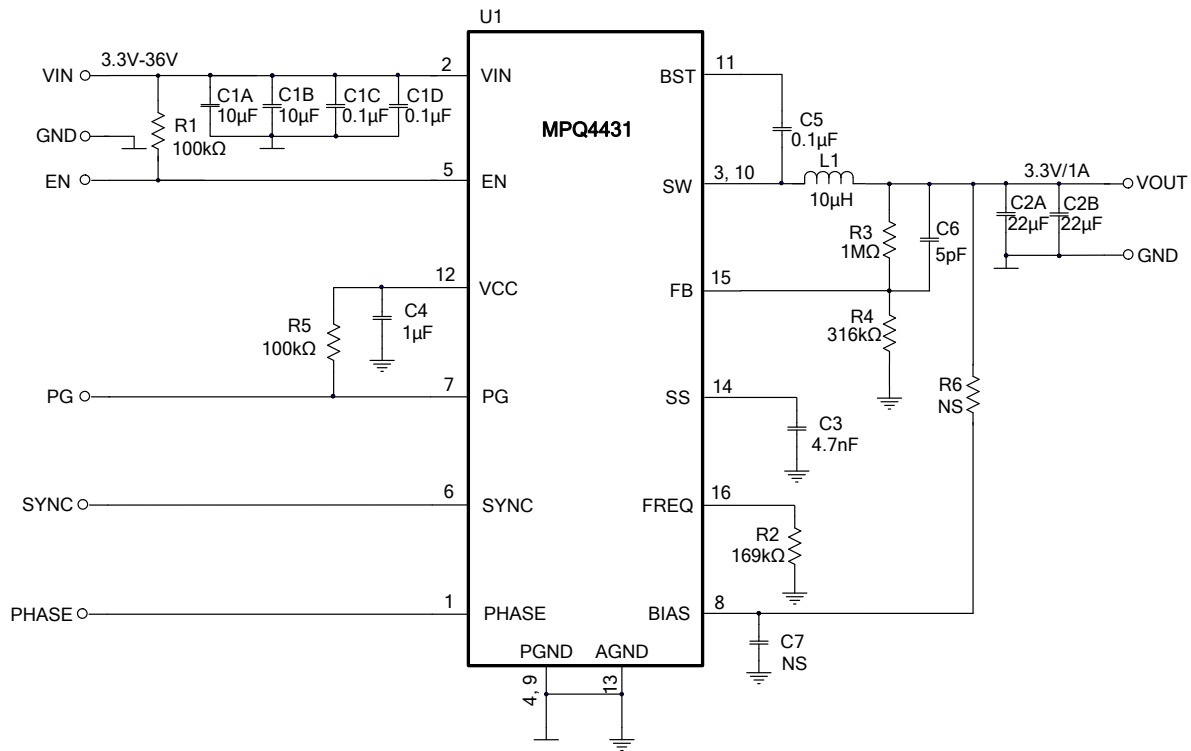

Figure 9: $V_{OUT} = 3.3V$, $I_{OUT} = 1A$, $F_{sw} = 500kHz$
- 6) The recommended PCB layout is based on Figure 9 through Figure 16.